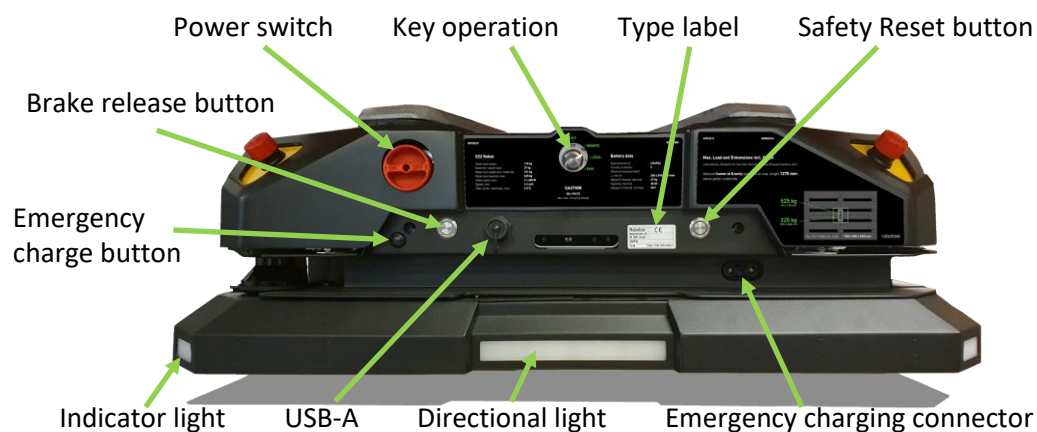
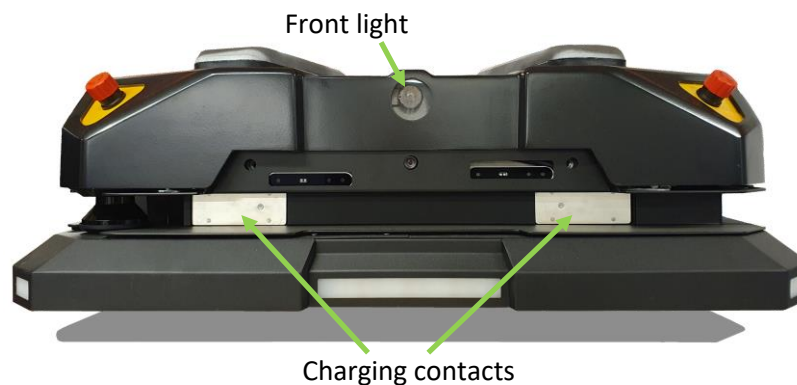

Figure 6 GoPal E22 rear view
Figure 7 GoPal E22 front view
The Safety Reset button (see *Figure 6*) is located at the rear of GoPal. If the mechanical bumper or any of the emergency stop buttons have been triggered, this button must be pressed to reset the safety system of the robot. After holding the Safety Reset button for a minimum of 1 second, GoPal will emit an audible warning signal and flash a light to indicate its active state.
The Brake Release button (see *Figure 6*) is located at the rear of GoPal. To release the robot's brakes, press this button while the key switch is in the "Emg" position. The brakes will remain released as long as the button is pressed, allowing the robot to be moved away from an object if its bumper has been engaged.
The key switch, located at the rear of the robot (see *Figure 6*) is used to control GoPal. The key switch has several positions:
The USB-A interface, located at the robot's rear (see *Figure 6*), is used for maintenance and service activities and configuration settings.
The automatic battery charging connector points are located at the front of GoPal (see *Figure 7*). These connectors are used when GoPal is docked at a Charging Station for charging. An emergency charge connector is located at the rear of GoPal (see *Figure 6*). This connector is typically not used but can be employed if an error prevents GoPal from driving into a Charging Station. The robot will not drive while emergency charging is in progress.
The Emergency Charge Button is located at the rear of the robot (see *Figure 6*). Use this button for emergency charging when the robot's battery is critically low and it is unable to charge, even when connected to charging power.
- Connect the provided DC power cable to the robot's emergency charge connector. (see *Figure 6*)
The GoPal robot is equipped with operating lights (see *Figure 6*) that function in the same way as those on a car. GoPal has white lights at the front, red braking lights at the rear, and orange corner lights that function as indicators when turning.
Additionally, GoPal has a powerful green light installed at the front (see *Figure 7*) illuminating the floor several meters in front of the robot. The purpose of this light is to alert other traffic to an approaching GoPal robot.